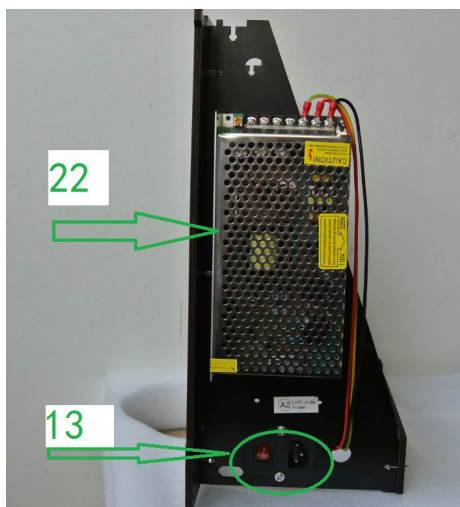
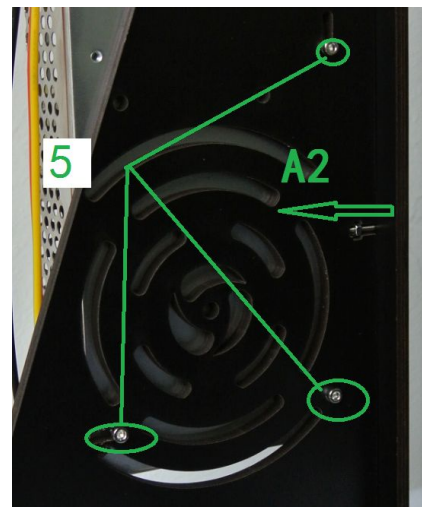
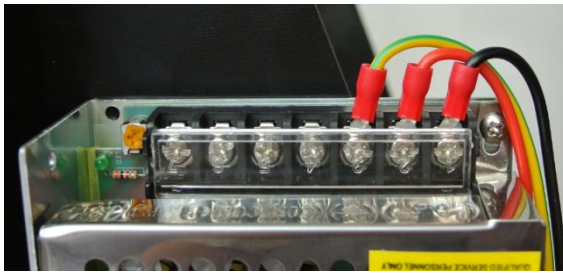
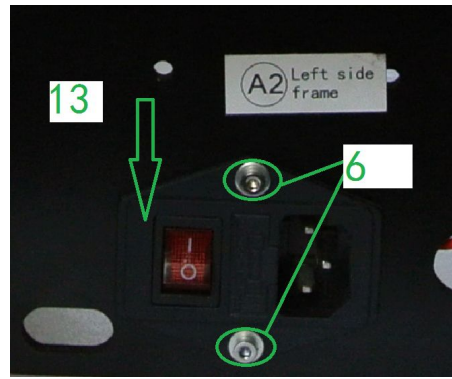

Figure 7.1 A2 Assembly
Figure 7.2 Motherboard on the Back and Tightening
Figure 7.3 Connection of Power Source Socket and Motherboard Cables
Figure 7.4 Power Source Socket and Tightening Screw
The installation of A2 assembly is shown in Figure 7.1. As instructed in figure 7.2, fix the motherboard ㉒ onto the A2 board on the right side of main framework with 3 pieces of ⑤ screw. Then follow figure 7.4 to fix power source socket onto A2 board with screw ⑥, nut ④ and washer ③. The connected power source socket and motherboard cables are shown in figure 7.3.